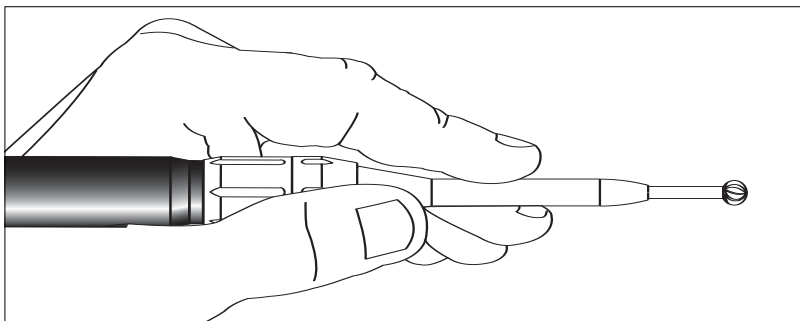

Fig. 17
1. The drill should be held like a dissector for precise cutting and better fingertip feedback (**Fig. 17**).